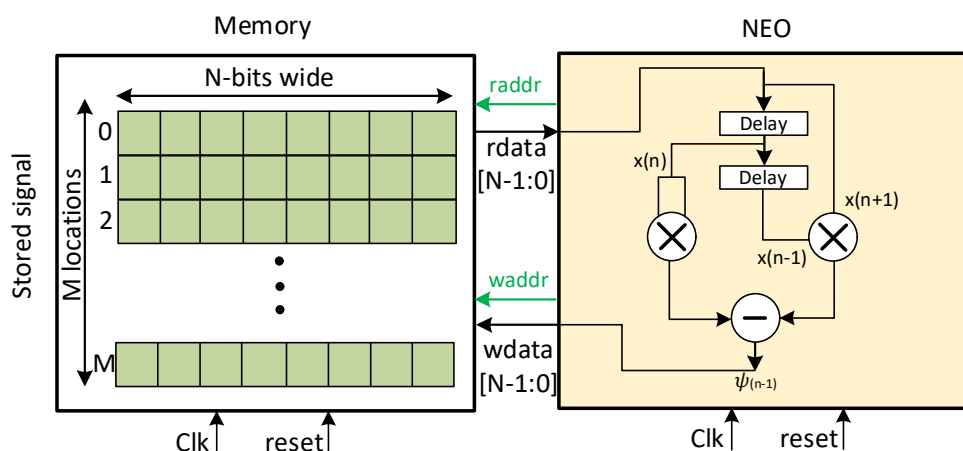

Figure 1. Interfacing the memory to the NEO unit.
A signal energy operator is a computational block that calculates the energy of a signal stored in memory shown in Figure 1. Here are the main steps in Figure 1:
Testing NEO with varying amplitude and frequency: generate a sine wave in MATLAB with  $A = 1.0$  and  $f = 100$  Hz, then change the values to  $A = 2.0$  and  $f = 500$  Hz and finally to  $A = 3.0$  and  $f = 1000$  Hz. **Hint: the length of the generated signal should be equal with the number of locations (M) shown in Figure 1. Please also use the following sequence:**